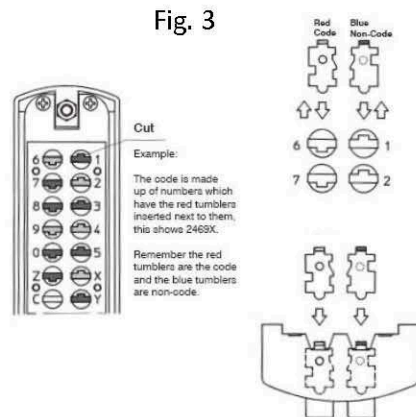

Fig. 3
While holding knob in clear position, make sure the blue or red colored end of the tumbler is facing upwards. Make sure notch is facing proper direction. See Fig. 3.
4. Install adjustable deadbolt (#12) into door to the desired length; either 2 3/8" or 2 3/4". (See Fig. 3 Front Page)